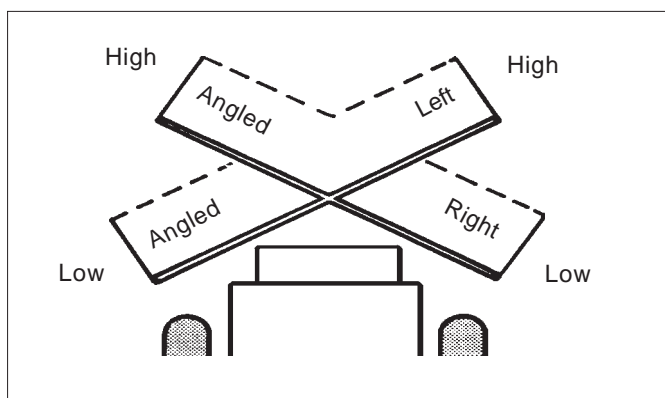
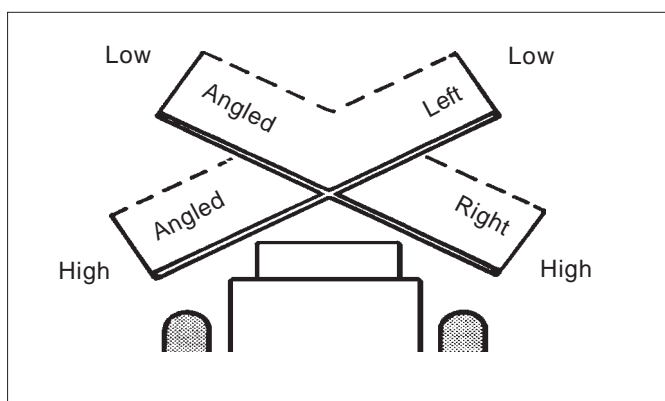

figure 4
figure 5
- If the measurements are not equal, adjust the mounting assembly upright. For measurements that resemble figure 4, turn the leveling bolts counterclockwise. For measurements that resemble figure 5, turn the leveling bolts clockwise.